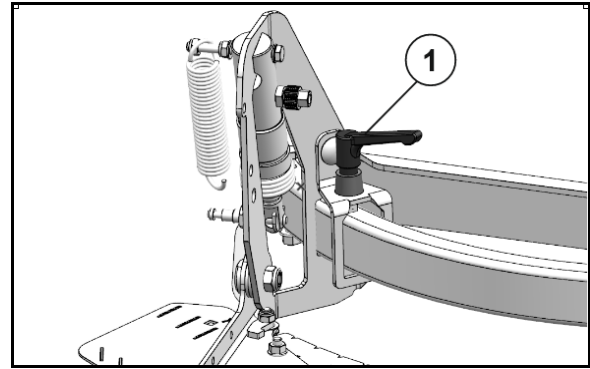

Fig. 63
1. To do this, release the clamping lever (Fig. 63/1).